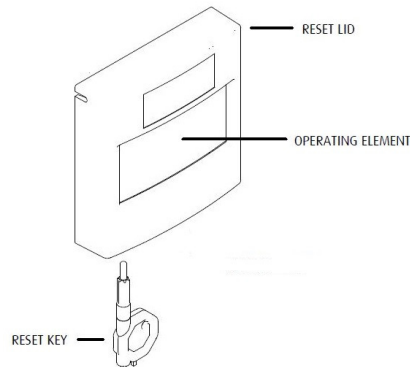

Figure 2
7. To Reset the Call Point, Insert the Reset Key where shown in Figure 2 and turn anti-clockwise until it Clicks and the Yellow/Black flag has retracted from view.